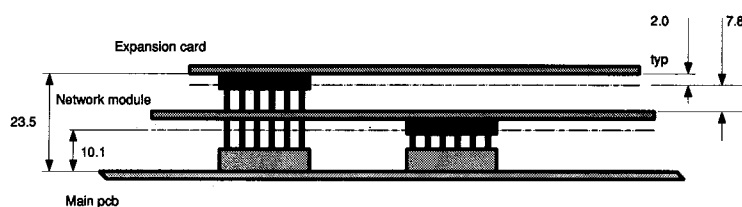

Figure 3: Space around the networking card
- Figure 3 gives the dimensions of the maximum usable space above and below the networking card (showing a network card located between the main board and an expansion board).